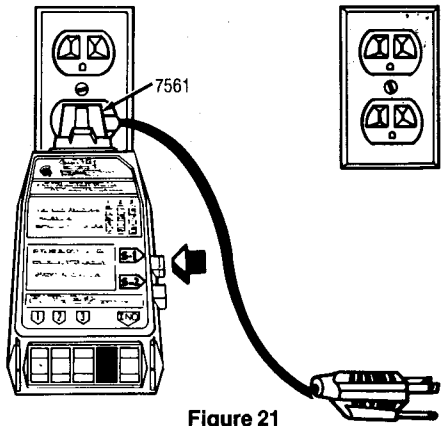

Figure 21
- Step 4. Press the black (S-1) button IN (Fig. 21).